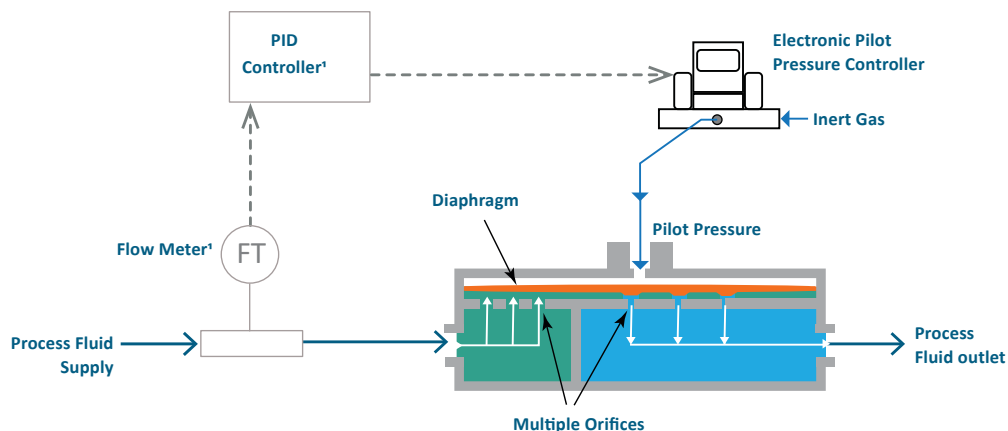
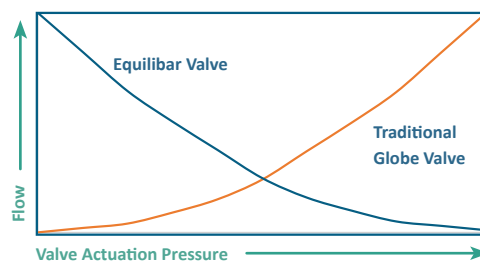

Fig. 1 Schematic of how the Equibar regulator works in flow control
Fig. 2: Flow Response to Actuation Pressure for Traditional Flow Control Valve and an Equibar Valve
In a flow control configuration, the Equibar® flow control valve (FCV) uses an electronic pilot pressure controller and a flow meter in a control loop. **See Fig. 1.** A proportional-integral-derivative (PID) controller monitors input from a flow transmitter (FT) and adjusts the pilot pressure to control flow. An electronic pressure controller translates the electronic signal from the PID into a pressure signal for the pilot pressure. Flow is decreased by raising the pilot pressure and increased by lowering the pilot pressure. **See Fig. 2.**
When using the Equibar FCV, pressure and flow have an inverse relationship, so the control scheme will be set up differently than typical control valves. In flow applications, the PID loop must be used in **direct mode** instead of the more common inverse mode used by traditional control valves. Pressure must be **increased** in response to an **increase** in flow. Opposite flow responses of a traditional globe control valve (red) and an Equibar FCV (blue) in response to actuation pressure are represented in Fig. 2.